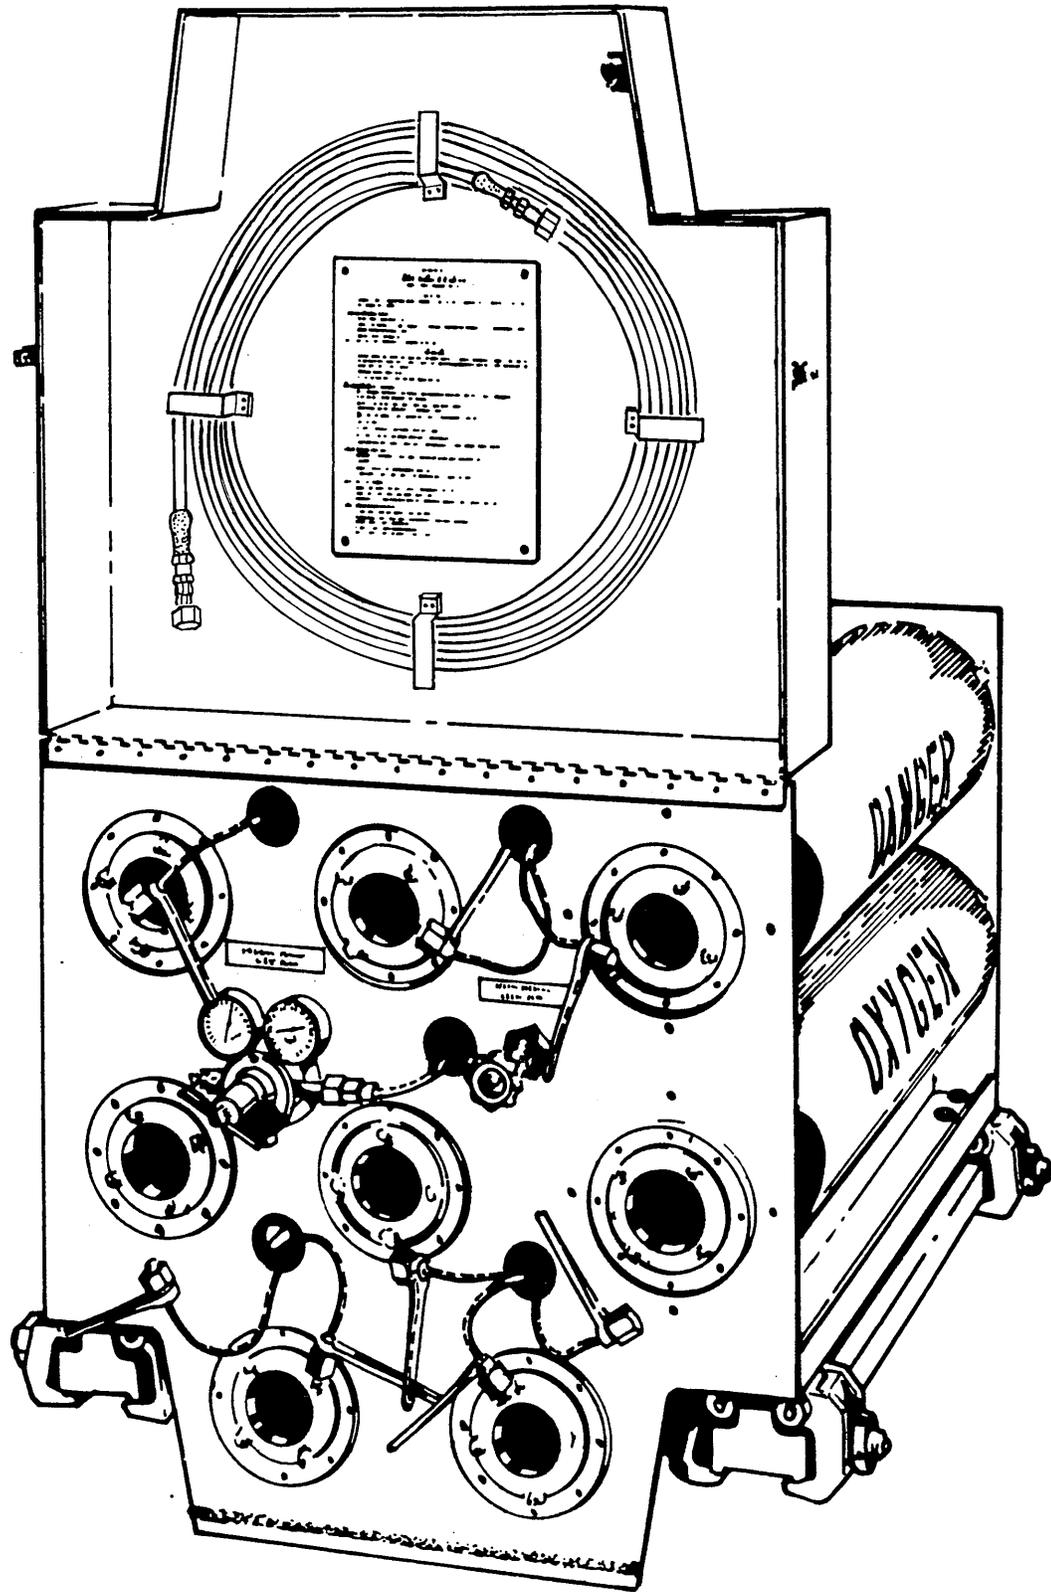

Figure 9-24. Oxygen Servicing Unit
(6) Maintenance. Consult the applicable maintenance manual for scheduled and preventive maintenance requirements.
q. Oxygen Servicing Unit. The oxygen servicing unit, shown in figure 9-24, will provide oxygen at a maximum pressure of 3,000 psig. Each of the eight bottles will hold 224 cf of oxygen. The flow capacity of the regulator is 1,500 scfh at 2,300 psig delivered.
(1) Purpose. The oxygen servicing unit is designed to provide a means of carrying standard high-pressure oxygen bottles and of interconnecting them to provide regulated single output which can be adjusted for pressure. It is used to service aircraft and other equipment which requires pressurized oxygen.
(2) Principles of operation. The oxygen servicing unit consists of eight cylindrical tubes, each of which can house a standard high-pressure oxygen bottle lying on its side. Pigtails and a manifold are used to interconnect the oxygen bottles to provide a single output. Each pigtail is connected to a check valve to prevent backflow. A manual control valve, connected to the manifold, is used to supply the oxygen directly from the oxygen bottles to the receiving equipment. An adjustable, dual-indicator regulator controls the oxygen output at the desired pressure. The oxygen supply is transferred through a 25 foot flexible output service hose.
(3) Safety practices and procedures. The following special precautions should be observed when using the oxygen servicing unit:
(4) Operating procedures. The following general procedures pertain to the operation of the oxygen servicing unit: